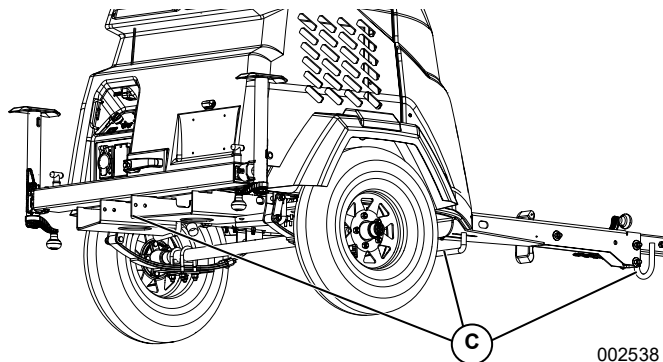

Figure 3-58. Tie-Down Points
See Figure 3-58. Use the tie-down points (C) as shown.